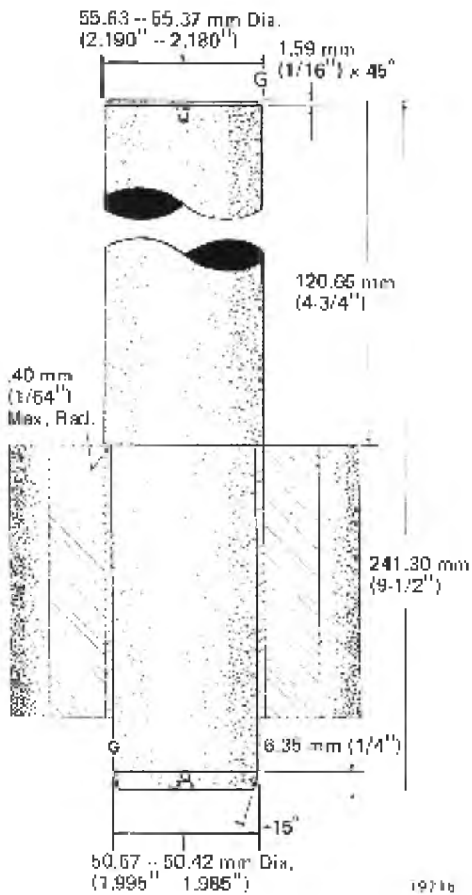

Fig. 9-14 - Oil Pump Driven Gear Bushing Tool
4. Driven gear bushing installation and removal tool construction and application is shown in Fig. 9-14.